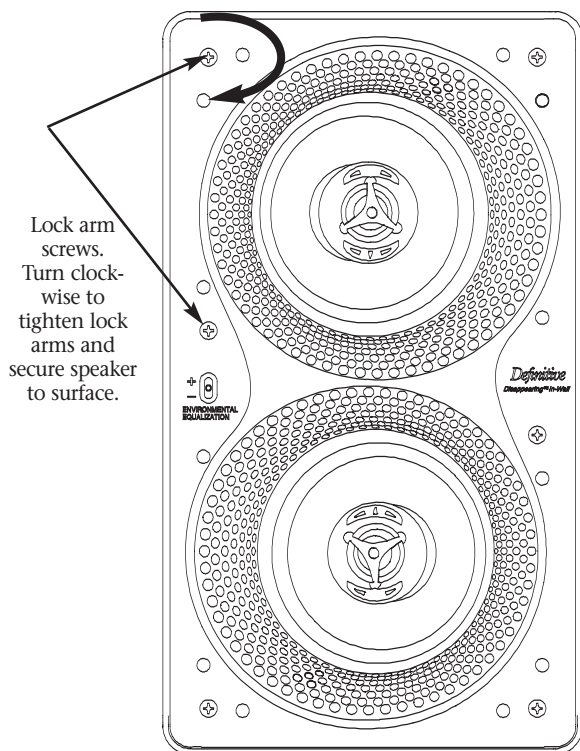
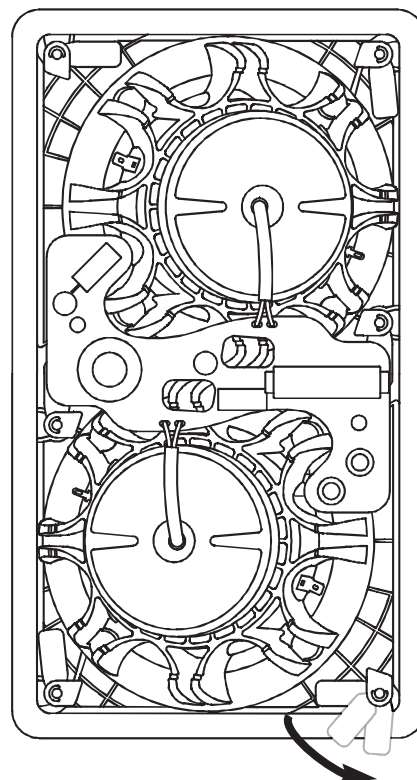

Figure 14
Figure 15
- Place the speaker carefully into the cutout. If you have a level, use it to help you correctly align rectangular speaker models. Tighten the lock arm screws with a screwdriver [figure 14]. This will rotate the lock arms [figure 15] and secure the speaker to the wall/ceiling. Do not over-tighten the lock arm screws. If you are using a powered screw driver or drill set the torque to a value of 7 in. – lb. (8dN – m)